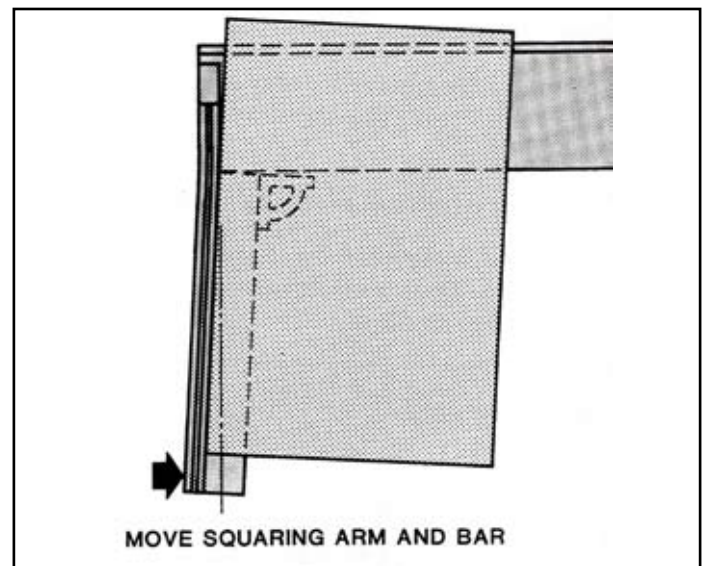

Figure 9-20 - Move Squaring Arm Guide and Bar
5. Sheet lays on the table and against the squaring arm bar as shown on Figure 9-20. Use the procedure outlined under Step 4, except the initial movement of the squaring arm is to the right as shown on Figure 9-20.